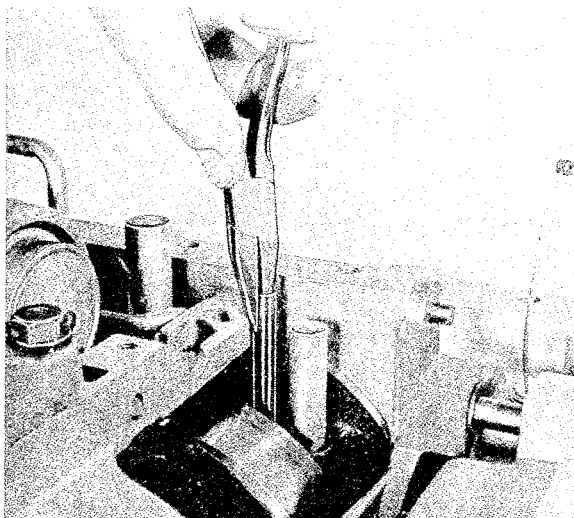

Fig. 4-80. Converter inlet and outlet tubes removal using needle-nose pliers
20. Remove the oil tubes in the housing. In case of difficulty pull them out with needle-nose pliers as shown in Fig. 4-80.